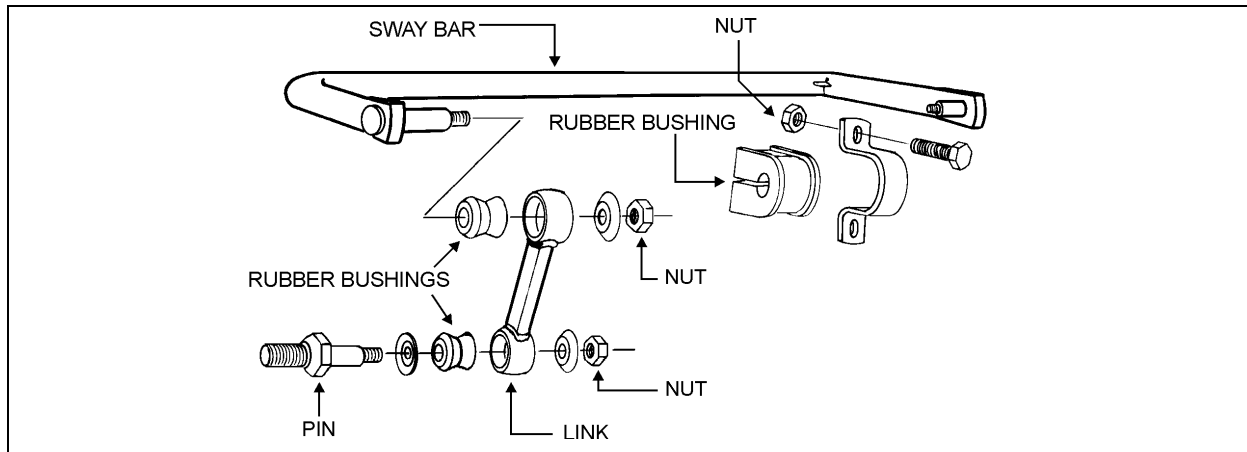

FIGURE 13: FRONT & DRIVE AXLE SWAY BAR
A sway bar is provided on the front and drive axles to increase vehicle stability. It controls lateral motion (swaying movement) of vehicle (Fig. 13).
2. Tighten the eight bushing collar nuts according to paragraph 13 Torque Specifications (Fig. 13).
3. Tighten sway bar link upper nuts and lower nuts according to paragraph 13 Torque Specifications (Fig. 13).